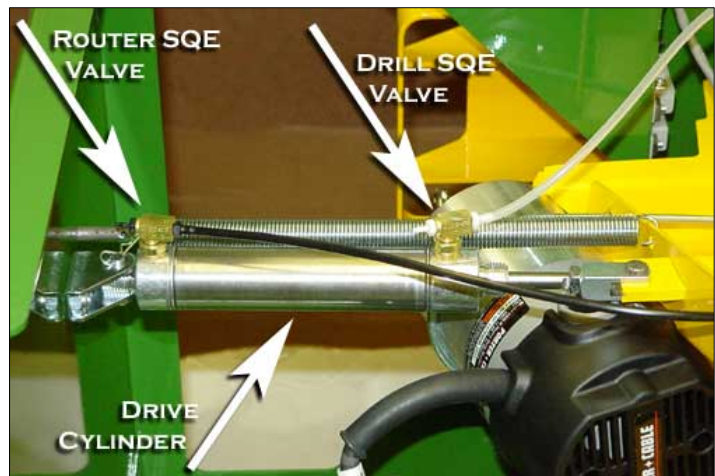

FIG 4
3. Unplug the two DRIVE CYLINDER hoses from the solenoids. This is done by following the air lines back to their connection at the control panel. The hoses should remain attached to the air cylinder at the SQE's (Fig. 4)